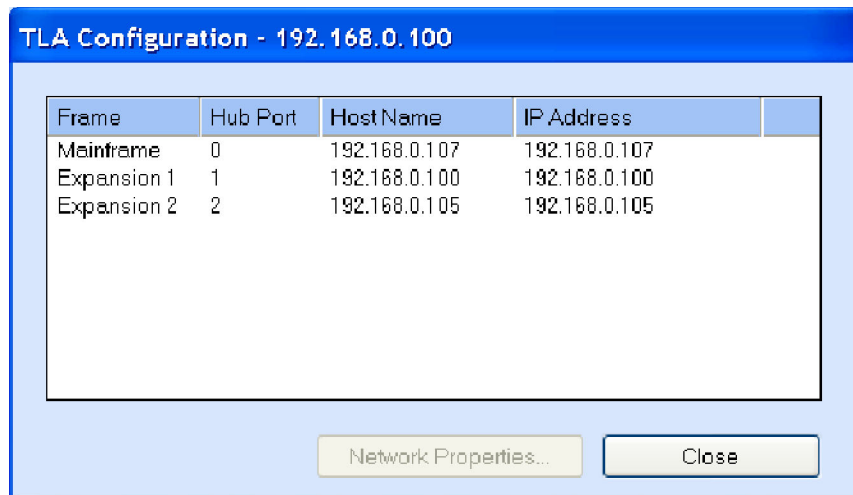

Figure 25: Instrument search results
- Click the Configuration icon and verify that the system is configured as you intended. Note that in systems with three or less benchtop mainframes, physically merged modules are not automatically established as a merged set until you merge them through software. (See Figure 25.)